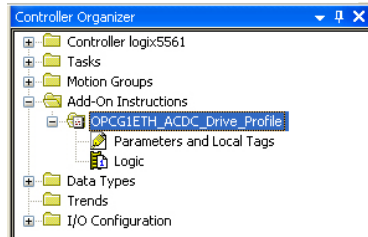

Figure 89: AC/DC Drive Profile Add-On Instruction
- 2) Right click on “Add-On Instructions” in the controller organizer view and select “Import.Add-On Instruction”. Browse and import the AC/DC drive profile add-on instruction. Refer to Figure 89.